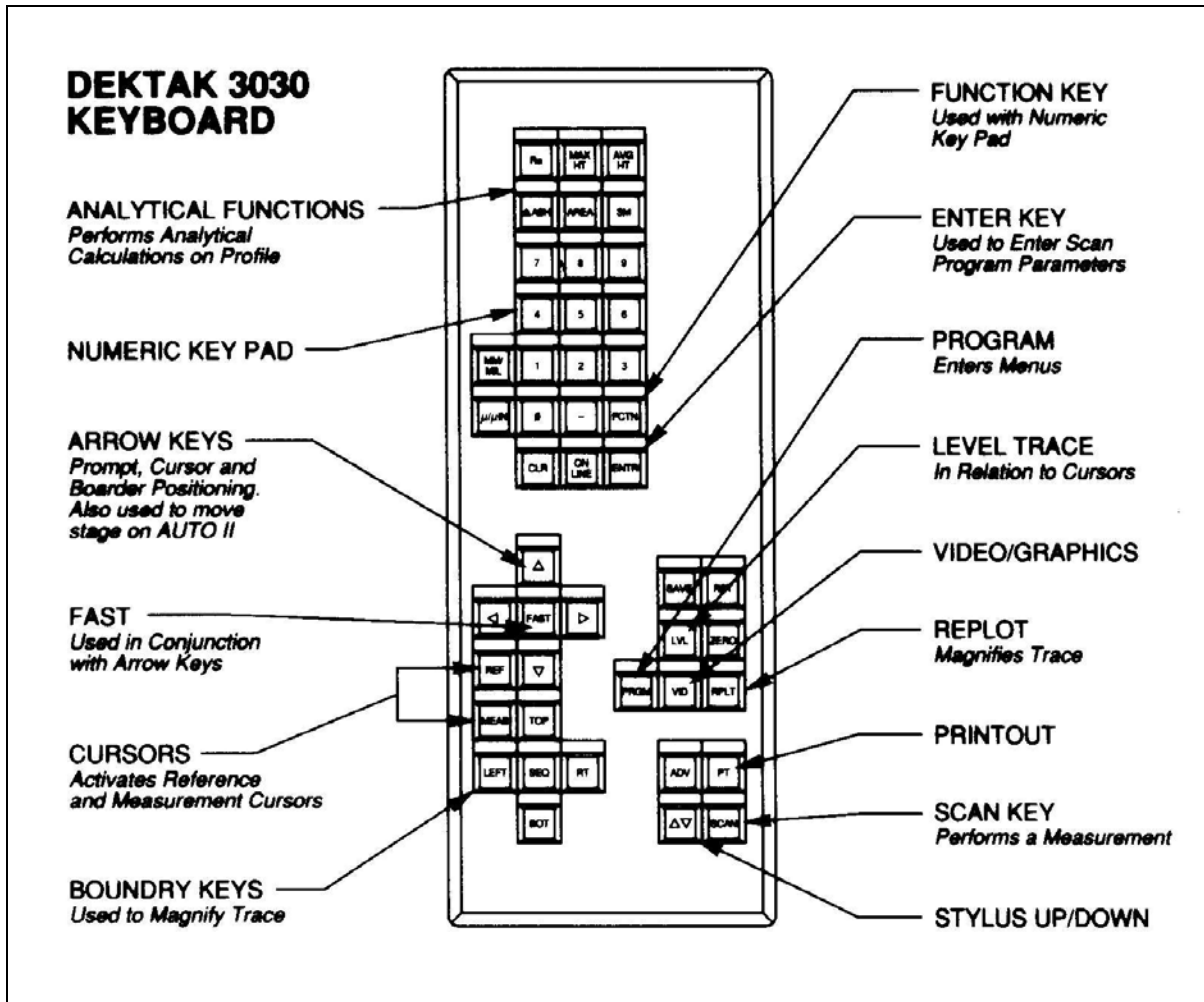

Figure 11.2
- 9.1.4 Press the stylus up/down key ▲▼ (Figure 11.2). Stylus will lower onto sample surface.